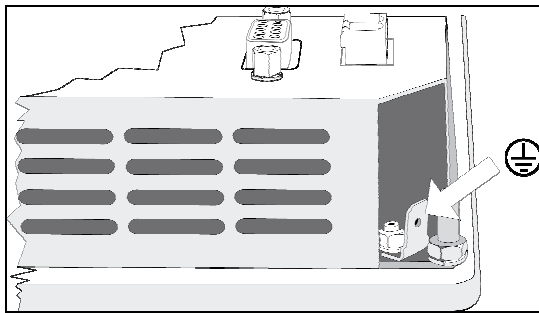

Fig. 13: PE
1. **Connect PE:** Connect the tab of the PE connection (see Fig. 13) to the protective earth. To do this use a line with a core cross-section of at least Cu 1.5 mm².